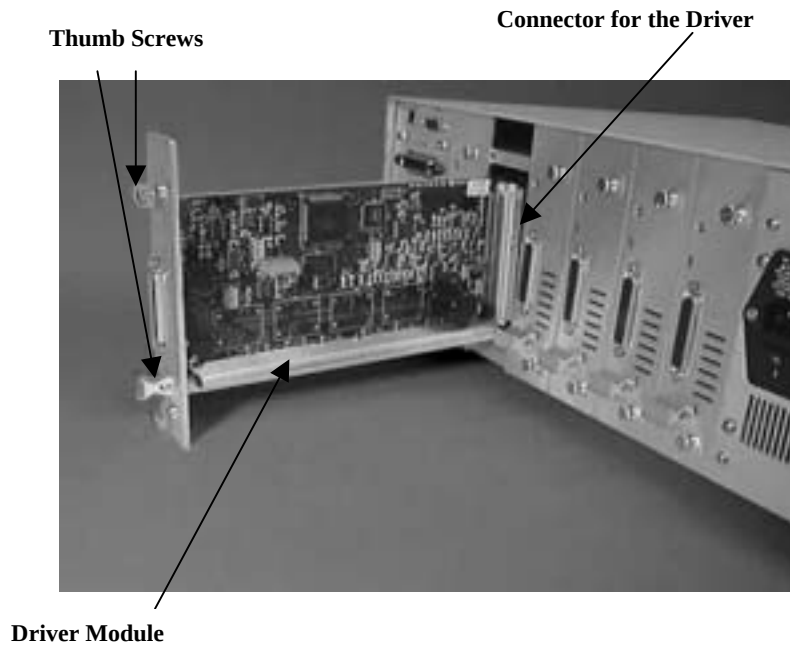

Figure E.2: Interior of the Axis Driver Module showing connector
4. Insert the driver module for axis 5. The connector of the driver module is keyed to prevent insertion with improper polarity. Make sure the keys line up properly before you try to insert the module (See **Figure E.2**).
5. Attach the driver panel to the rear panel of the unit with the (2) supplied thumb screws.